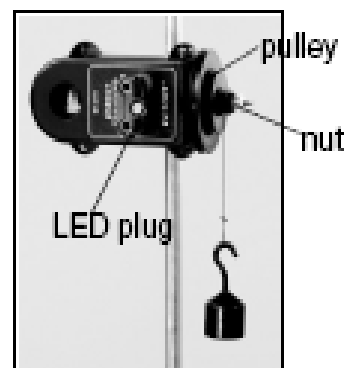

Figure 1a: Mounting the Generator to a rod stand
2. Insert the LED plug into the jacks on the generator (Figure 1a).